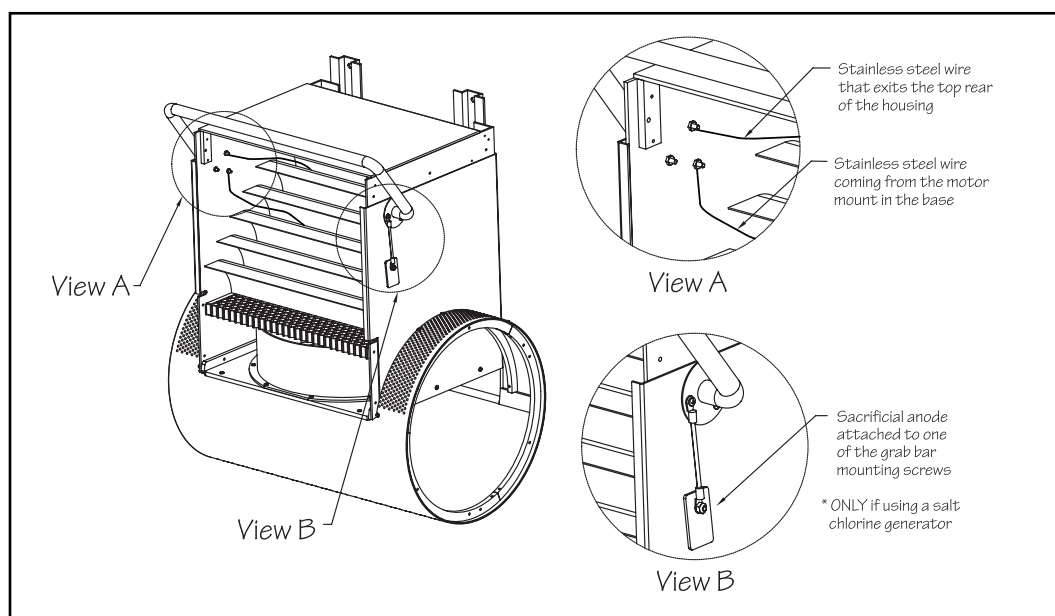

Fig. 6.8
- 6.10 Install the stainless steel grab bar to the upper housing using the provided stainless steel screws and lock nuts. Feed the stainless steel wire attached to the motor mount up through the horizontal grill. Then feed the wire up between two of the turning vanes. Place the stainless steel wire (from the motor mount in the base) around the bottom screw on the left side before tightening down on the nut. Place the second stainless steel wire (that exits the top rear of the upper housing) around another screw on the right side before tightening down on the nut. On the opposite side of the grab bar, secure the provided sacrificial anode under one of the grab bar mounting screws (Fig 6.8). **The sacrificial anode should ONLY be used in pools equipped with a salt-chlorine generator for sanitation.**